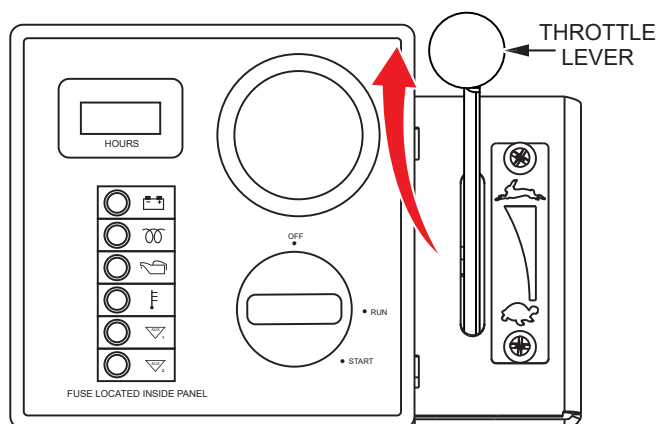

Figure 13. Engine Throttle Lever (Full Speed)
1. With the engine running, move the engine throttle lever to the **FULL SPEED** (rabbit) position. See Figure 13.